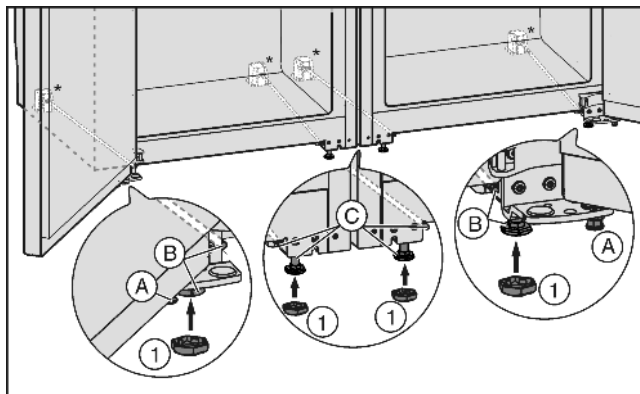

Fig. 4
- ▶ If necessary, completely retract the height-adjustable feet Fig. 4 (A) at the front of both appliances so that they are not touching the floor.
- ▶ Place the caps Fig. 4 (1) onto the four front height-adjustable feet.
- ▶ Retract the centre height-adjustable feet *Fig. 4 (C)* so they are not in contact with the floor.
- ▶ Level the combination using the outer height-adjustable feet *Fig. 4 (B)*.
- ▶ Lower the centre height-adjustable feet *Fig. 4 (C)* until they touch the floor.
- ▶ Then support the door: Extend the height-adjustable feet *Fig. 4 (A)* at the turn hinge until they are resting on the floor, then turn them further by 90°.